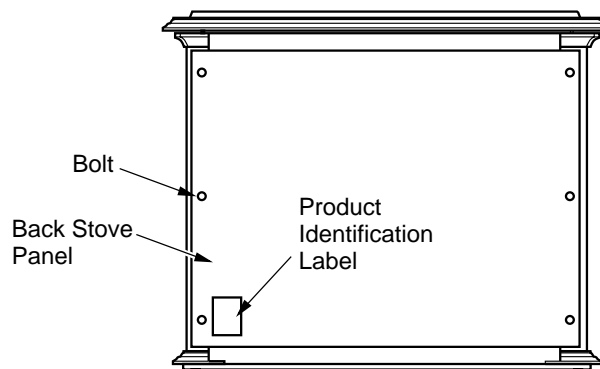

Figure 6 - Removing Back Panel
- Locate the product identification label on the back panel (see figure 6) and record the model number and 7 digit serial number in the space provided in the back of this owner's manual. Retain this operation and installation manual for future reference and warranty.
- Remove the six (6) bolts on the back stove panel with an adjustable wrench or a 10 mm socket. Discard the back panel and retain the bolts and washers to attach the rear cover provided with the burner system.